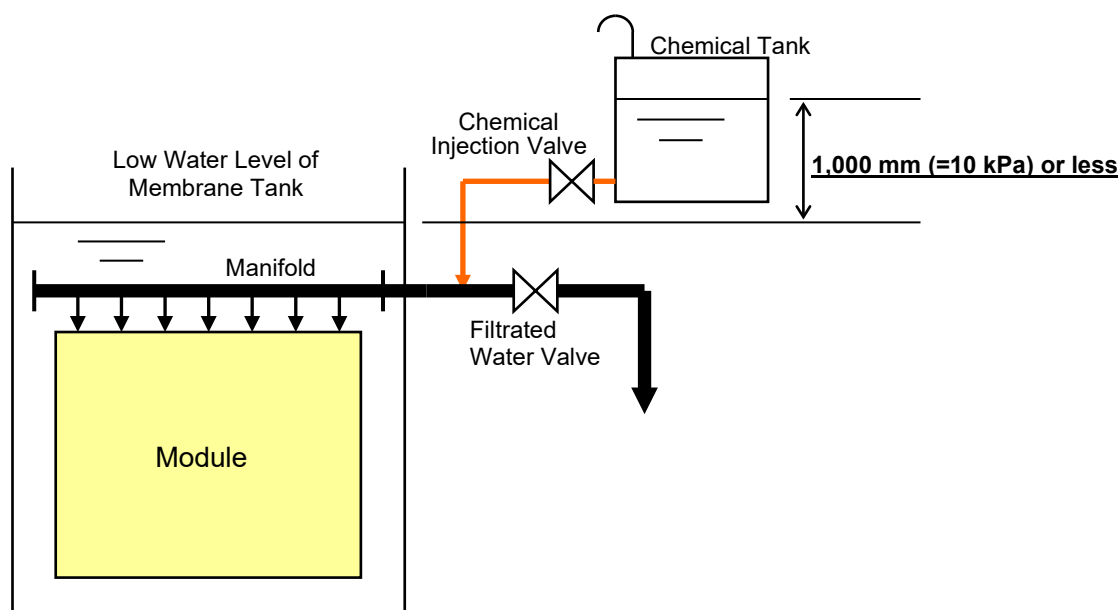

Fig.VIII-3 Chemical Cleaning with Chemical Tank Located above Membrane Tank
b. Chemical cleaning with the chemical tank located above the membrane tank (Fig.VIII-3)